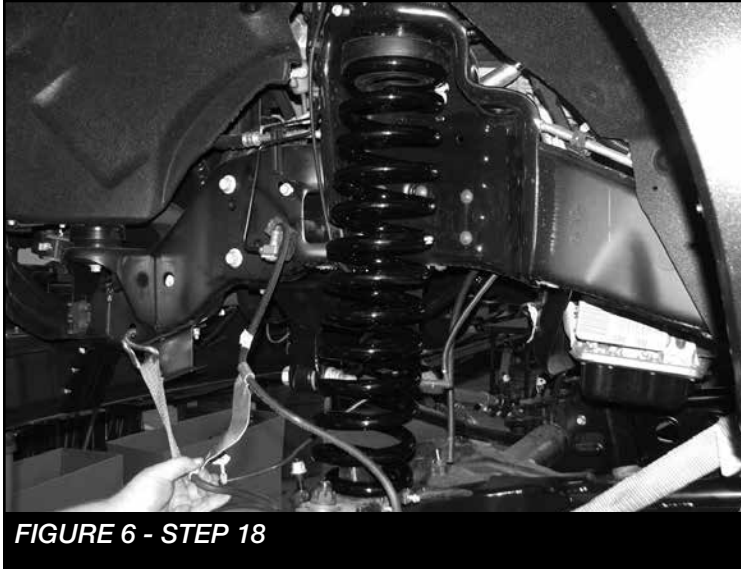

FIGURE 6 - STEP 18
18. Install the coil springs FT30648 into in the factory location using the original factory upper coil isolator. **SEE FIGURE 6**